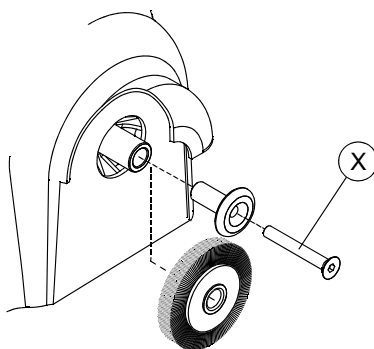

Fig. 19
- 2) use the wrench provided to loosen the brush locking screw (X) (fig.19);